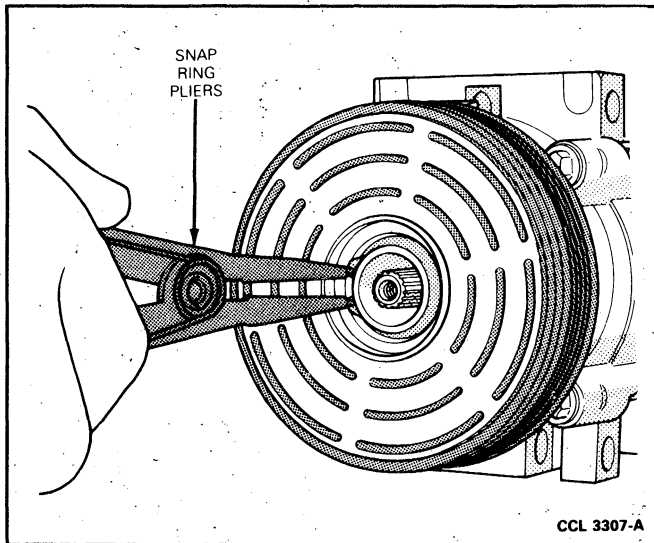

FIG. 7 Removing Pulley Retaining Snap Ring
3. Remove the pulley retaining snap ring (Fig. 7).